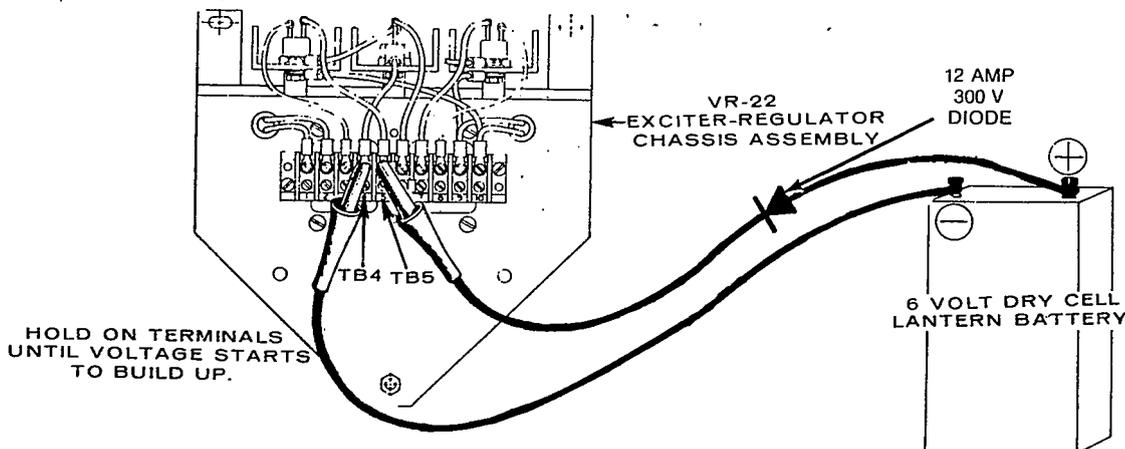

FIGURE 7. FLASHING THE FIELD
2. Use a six volt dry cell (lantern) battery with a 12 amp 300 volt diode as shown in Figure 7. This prevents current flow from exciter circuit to battery when voltage builds up. If a lantern battery is not available, a 12 volt automotive (generator set) battery can be used by installing a 20-ohm 2